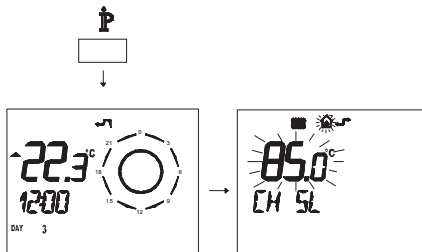

Fig. 7.32
- Press button **P** for more than 3 seconds to enter in **INFO** mode (Fig. 7.32).